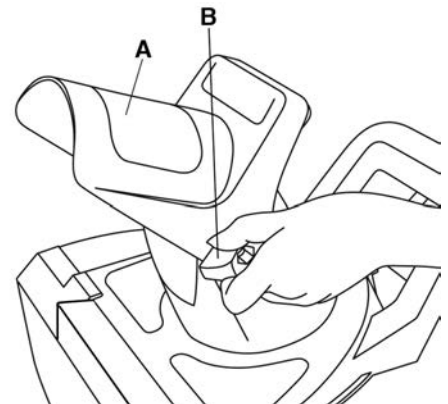

FIGURE 10
9. Raise or lower the chute deflector (A) Fig.10 to the desired height and tighten the chute deflector knobs (B).